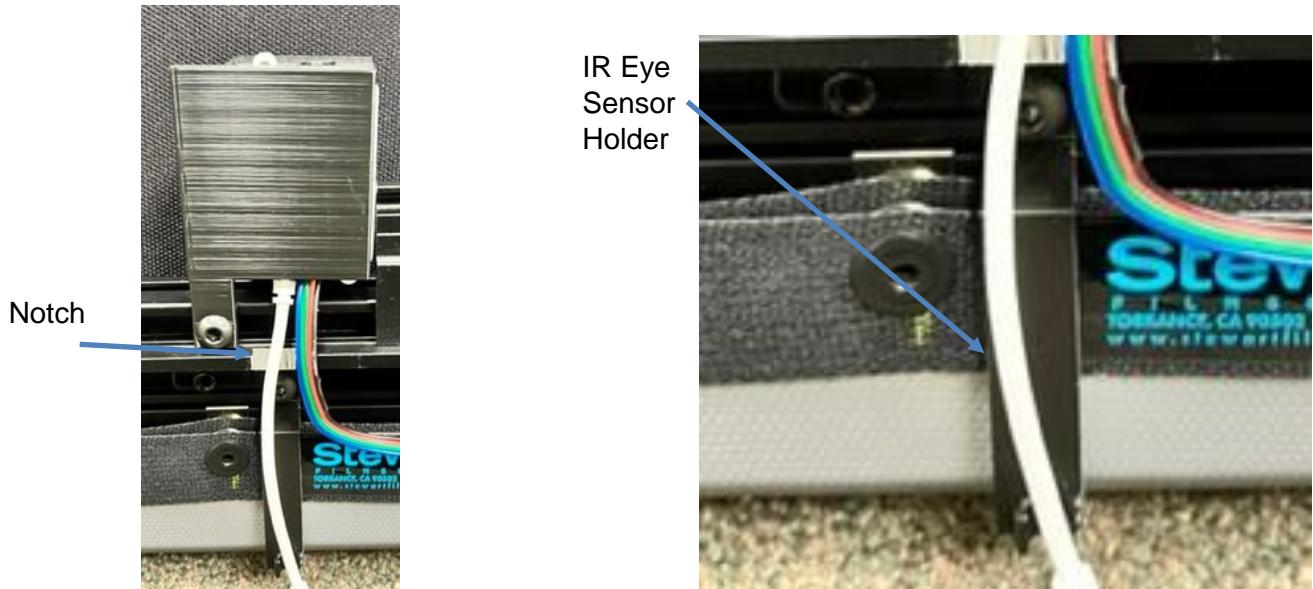

Figure 2: Control Box Attachment and wire holder
2. Use the pre-installed nut to attach the control box to the bottom right corner of the frame. Make sure that the eye sensor goes through the notch in the frame and that it's clipped onto the IR eye sensor holder (See Figure 2).